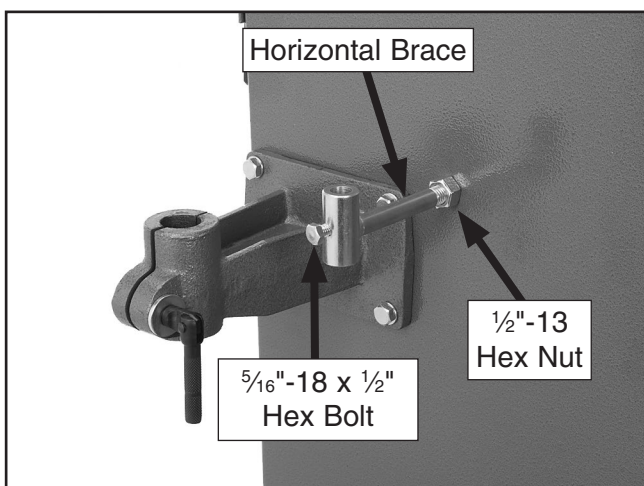

Figure 17. Horizontal brace installed.
3. Thread a $\frac{1}{2}$ "-13 hex nut $\frac{3}{4}$ of the way onto the horizontal brace, and thread a $\frac{5}{16}$ "-18 x $\frac{1}{2}$ " hex bolt into the shaft on the horizontal brace (**Figure 17**), making sure the bolt end is flush with the inside of the shaft.
4. Thread the horizontal brace into the sander (**Figure 17**), but do not tighten the hex nut yet; the brace will require further adjustment later.